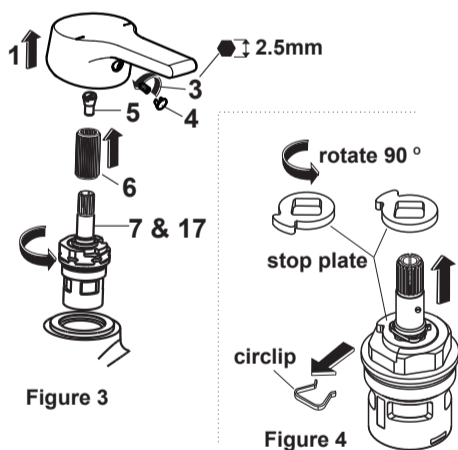

Figure 3
The pillar taps and 2 hole bath fittings employ SE quarter turn cartridges. These are replaced as follows (refer to Figure 3):
Unscrew cartridge screw (5) and lift off drive insert (6). Cartridge (7 or 17) can then be unscrewed. (Figure 3)